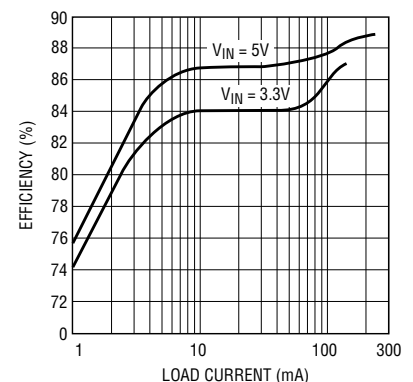

Figure 1. 3.3V/5V to 12V Step-Up Converter
**Load Transient Response of Figure 1 Circuit**